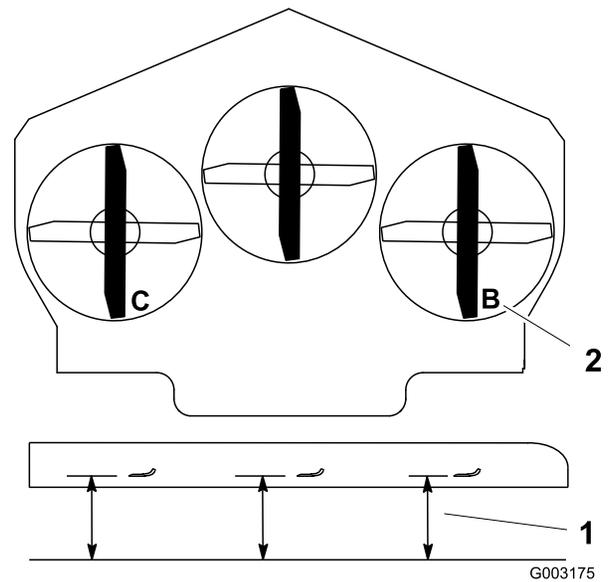

Figure 78
1. Position the right blade front-to-rear (Figure 78).
2. Measure the right blade at the **B** location, from a level surface to the cutting edge of the blade tip (Figure 78).
4. Position the left blade front-to-rear (Figure 78).
5. Measure the left blade at the **C** location (Figure 78), from a level surface to the cutting edge of the blade tip.